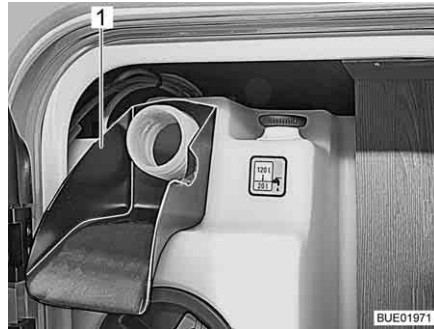

Fig. 241 Filling aid
- Plug the filling aid (Fig. 241,1) onto the drinking water filler neck.